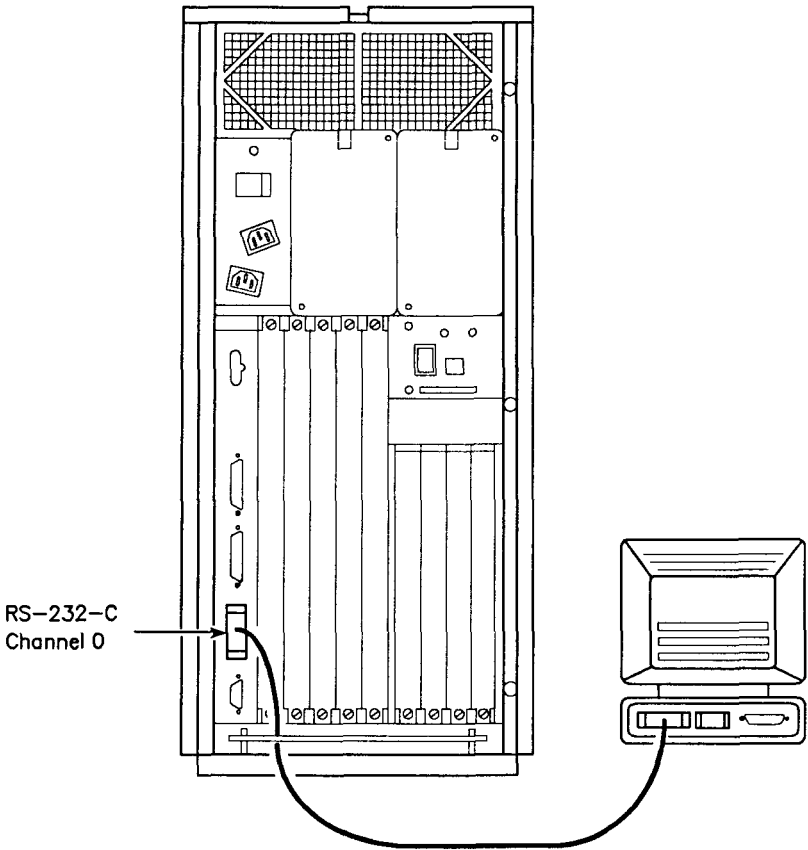

Figure 2-1. Connecting a Terminal to Channel 0
To connect a terminal to Channel 0 on the Main Processor (CPU) board (see Figure 2-1):
1. Connect the PT or GT to Channel 0 on the Main Processor (CPU) board as shown in Figure 2-1.